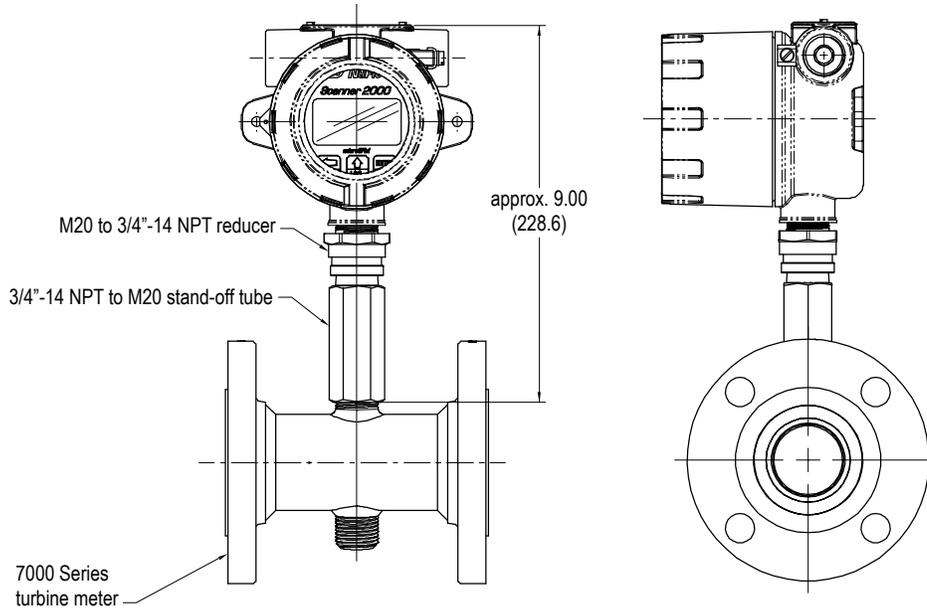

Figure 2.3 - Scanner 2000 direct-mounted to a Barton 7000 Series flowmeter (ATEX-approved only when direct-mounted to a Barton 7000 Series flowmeter)
- Direct-mount to a turbine meter. The CSA-certified instrument can be mounted to a turbine meter using a pipe adapter and union connection (Figure 2.2, page 31). The ATEX-certified instrument can be mounted to a Barton 7000 Series meter using a turbine meter pickup extension (Figure 2.3, page 32).